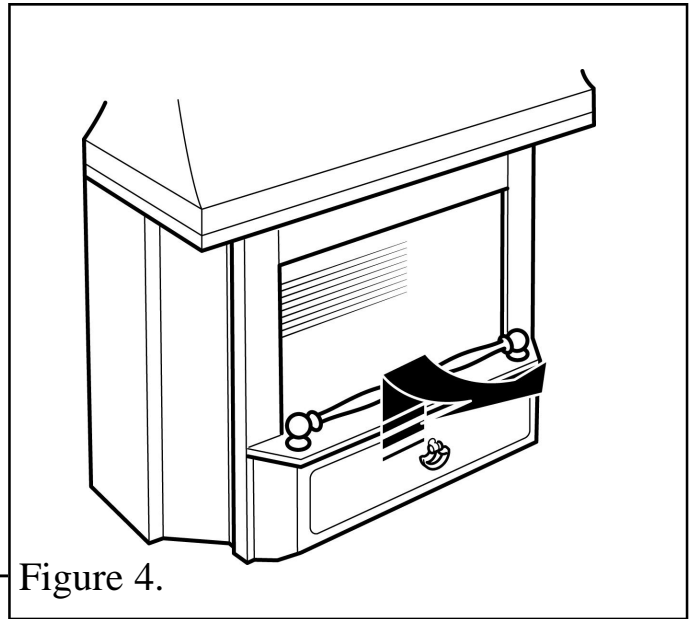

Figure 4.
1. Detach the window surround by sliding it upward and then swinging the bottom forward. Lift and store carefully (See figure 4).